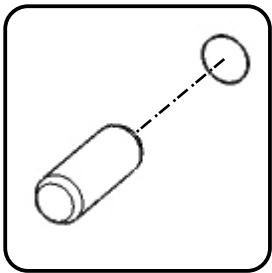

Figure 2
Insert Dowels into pre-drilled holes in Uprights (K). (See Figure 2)